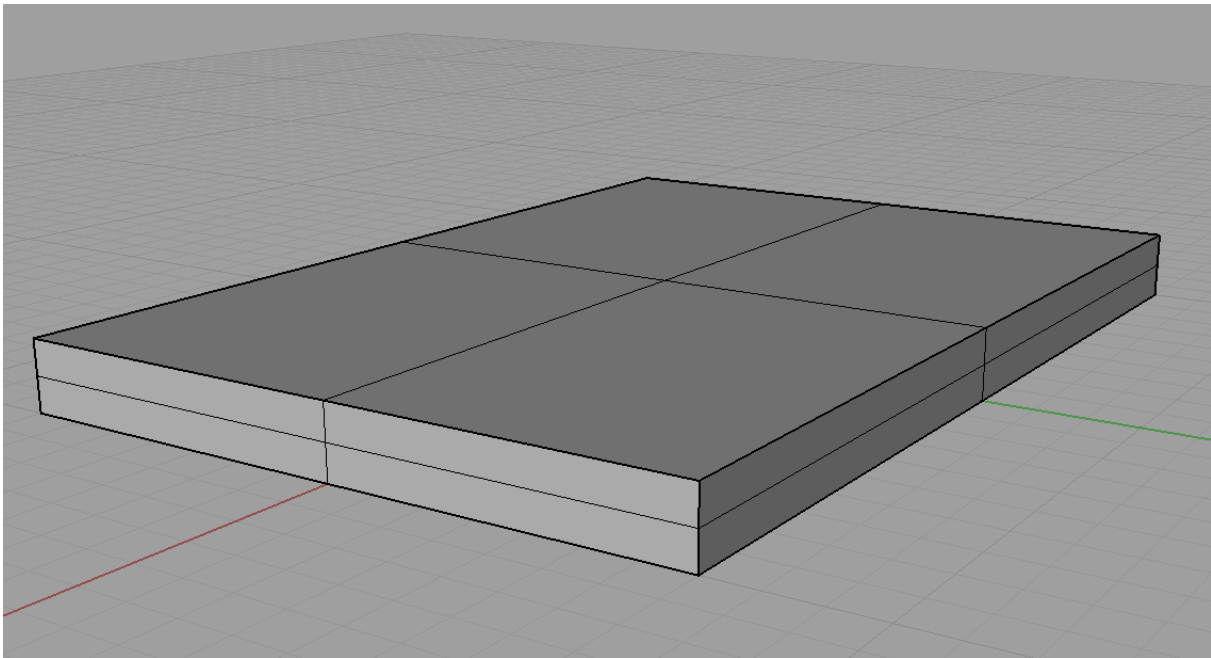

Figure 29: The 6 continuous surfaces only with the poorly conditioned mesh removed.
- ☞ After deleted the original mesh, only the continuous surface representation of the box will remain as shown in Figure 29.